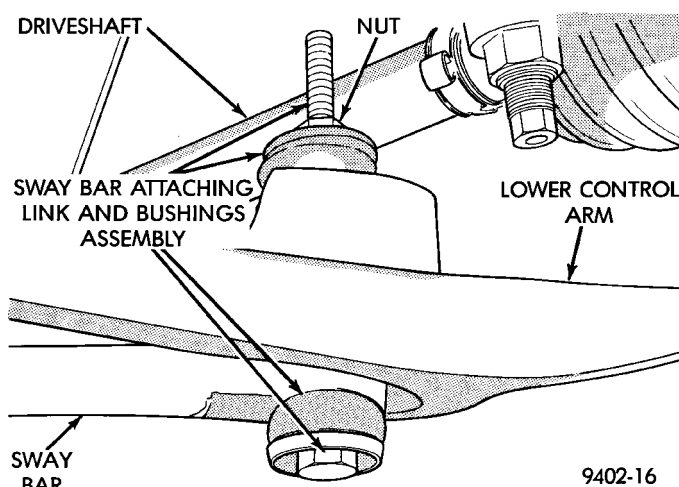

Fig. 39 Stabilizer Bar To Lower Control Arm Attaching Links
(1) Raise vehicle on jack stands or centered on a frame contact type hoist. See Hoisting in the Lubrication and Maintenance section of this manual, for the required lifting procedure to be used for this vehicle.
(2) Remove nuts and stabilizer bar attaching link assemblies from the front lower control arms (Fig. 39).